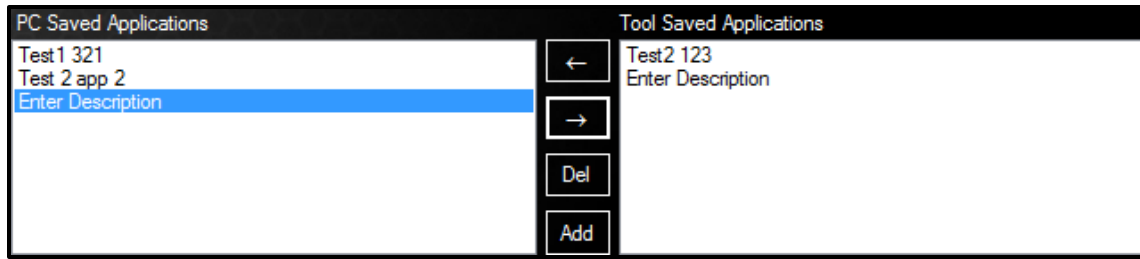

Figure 8.7-10: Tool Saved Applications
15. The Application will appear in Tool Saved Applications (Figure 8.7-10).